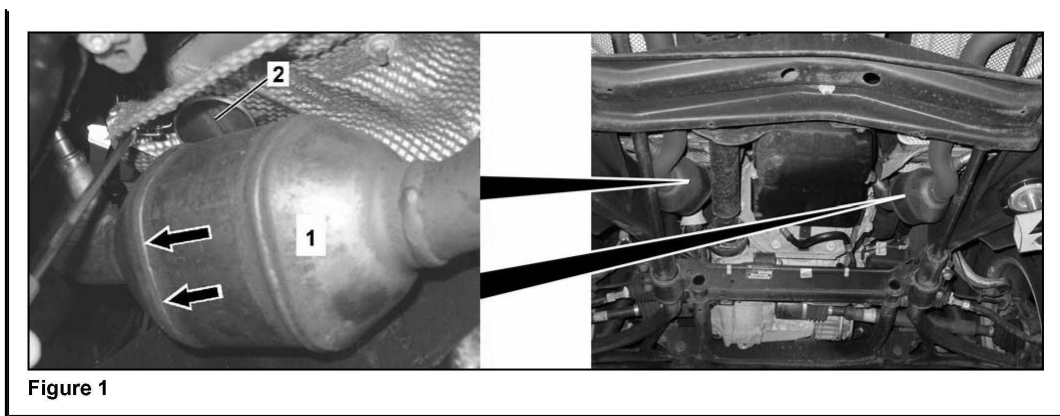

Figure 1
2. Visually inspect catalytic converter (1 Figure 1) for cracks and/or black exhaust residue at weld seam (arrows).